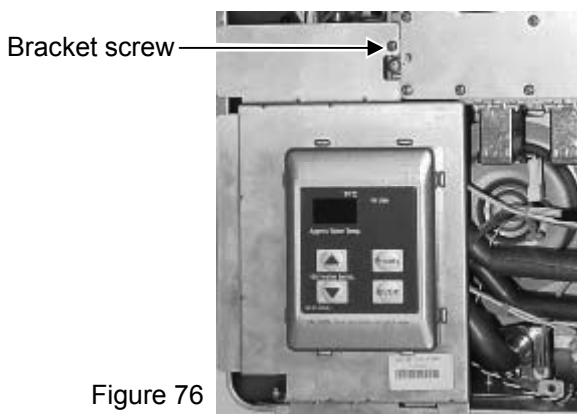

Figure 76
5. Remove the bracket holding the controller (1 screw). (Figure 76)